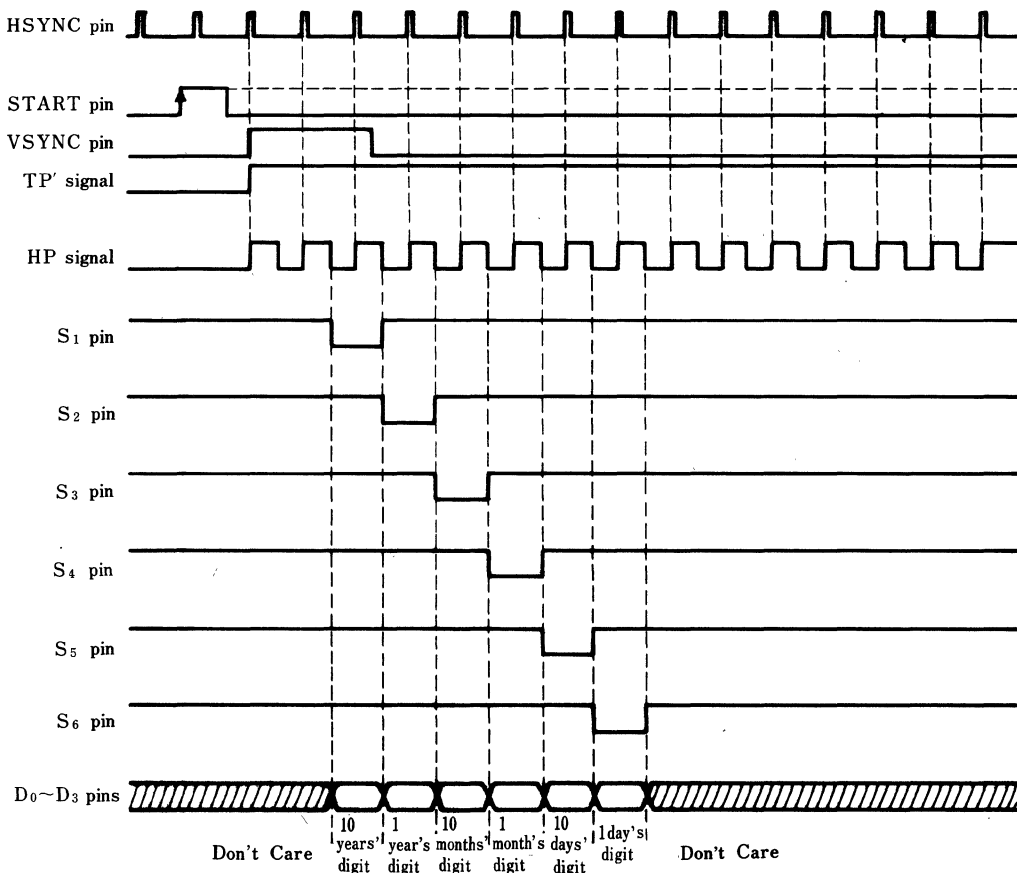
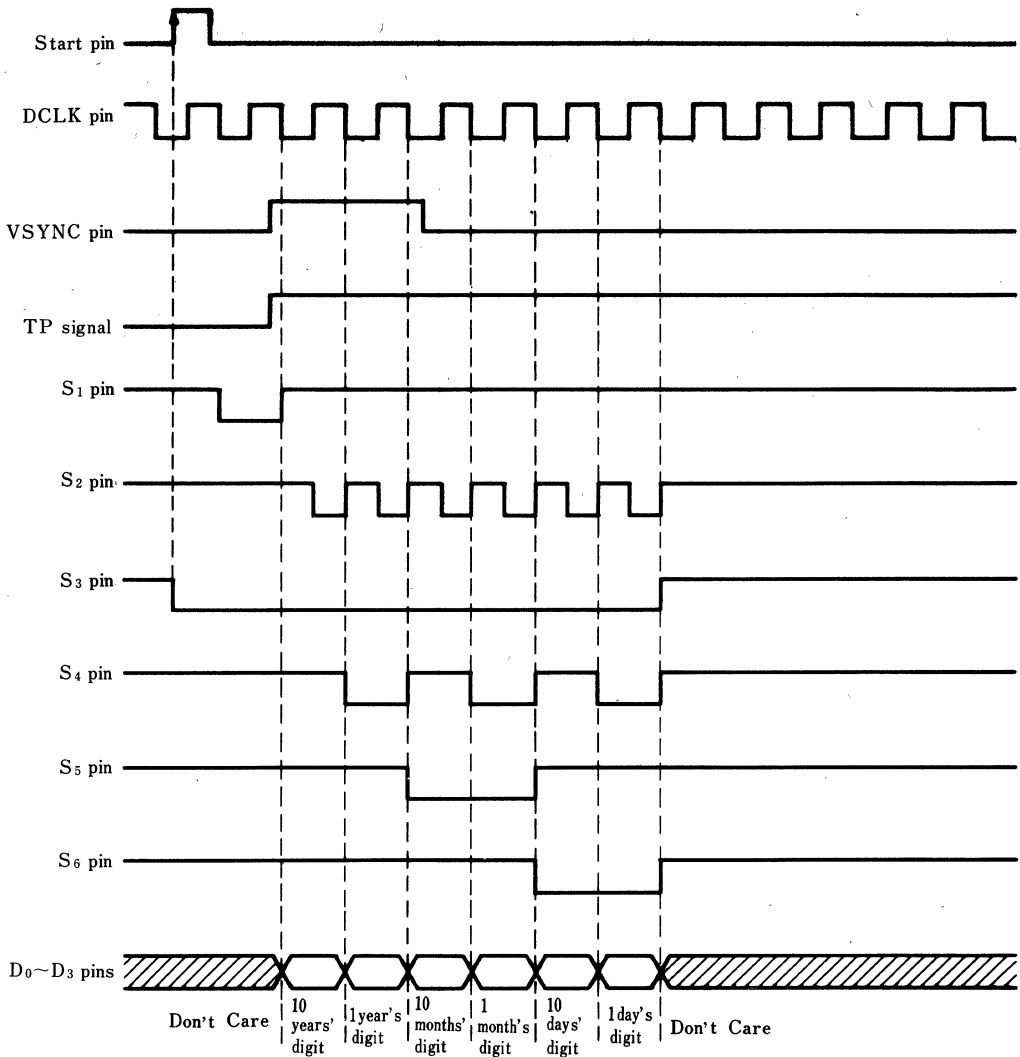

Fig. 1 Data read timing (CNT pin "Low")
Fig. 2 Data read timing (CNT pin "High")
(4) On the top signal going "High", the external data will be read into the LSI with the timing as shown in Fig. 1 and Fig. 2. In the data read timing chart, the CR time constant of the TRC pin (or TP signal output time) is shown to be long enough compared to the vertical sync signal cycle (longer than 2 cycles). With the CR time constant of the TCR pin short (shorter than the vertical sync signal cycle), the complete external data cannot be read into the LSI.